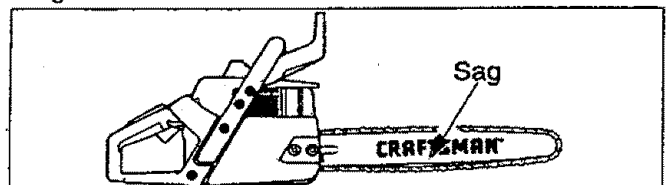

Figure 19
CHAIN TENSION (Fig. 19 & 20)
- If chain is too loose, it will sag below the guide bar. Figure 19.